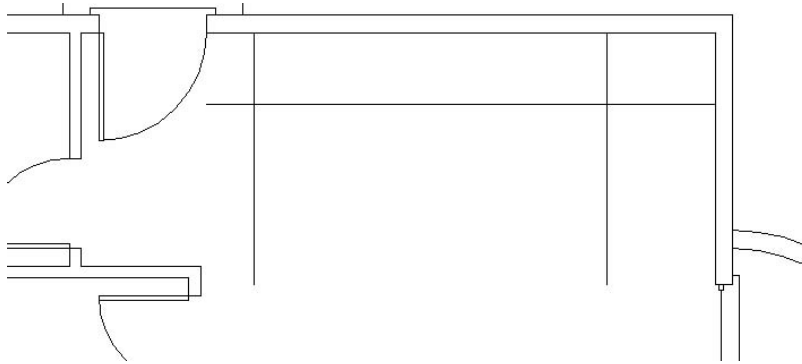

FIGURE 5.16: Offsetting wall lines to create the counter
2. Offset the right inside wall line 3' to the left. Then offset this new line 9'-10" to the left. Finally, offset the upper inside wall line 2' down (see Figure 5.16).